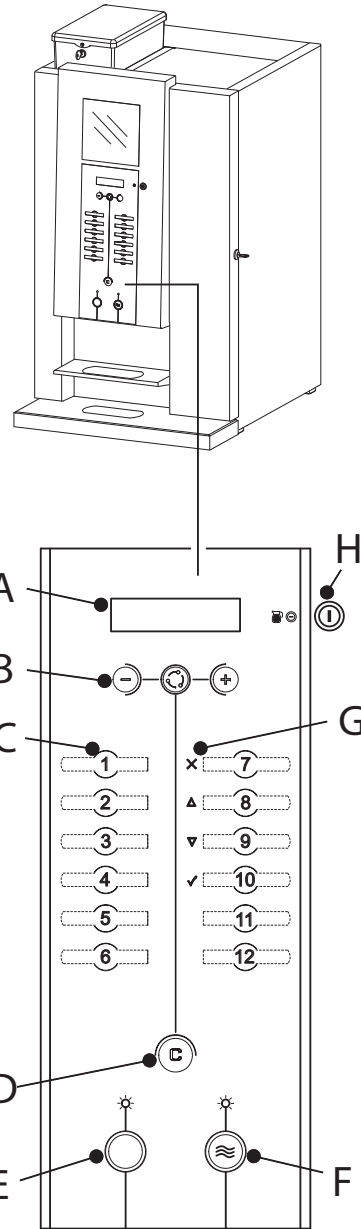

Fig. 22
- The front operating panel (fig. 22) is for normal daily use.